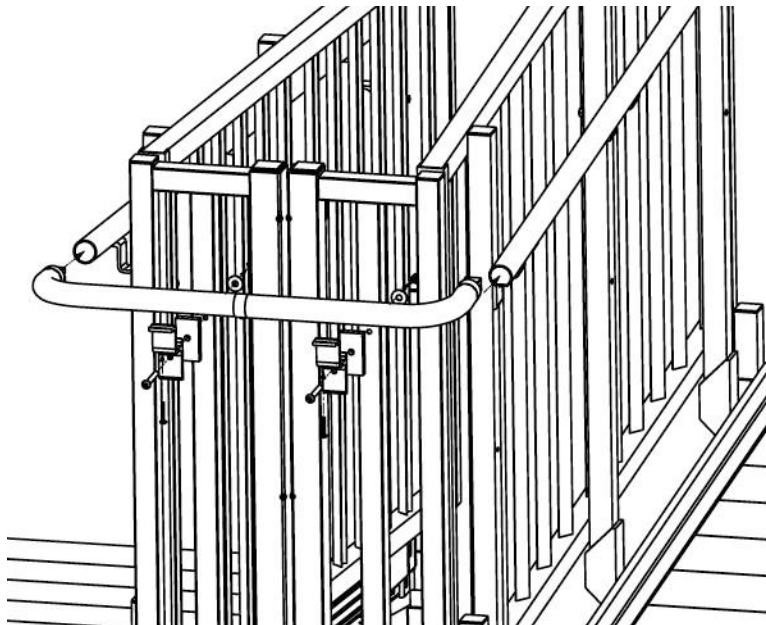

FIG. 44
- 8.6.3 Attach long legs of elbows in the middle with a ring joiner, and then attach both elbows to handrail tubes with ring joiners (FIG. 44)